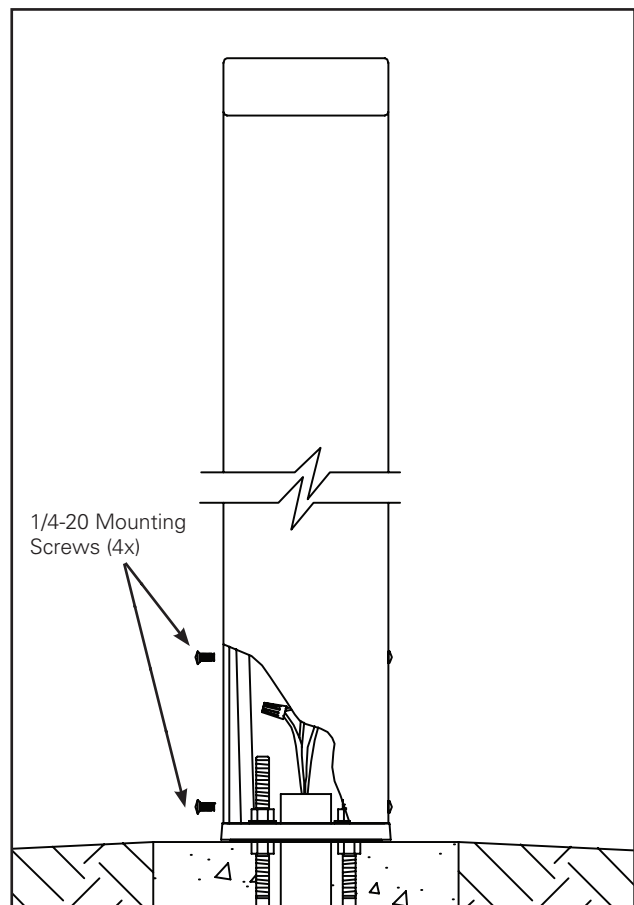

Figure 6.
4. Replace housing assembly over base. Making sure not to pinch any wires. Tighten the four mounting screws with 5/32 Allen wrench (supplied by others). Check fixture is plumb and read adjust the base if required. (Figure 6.)